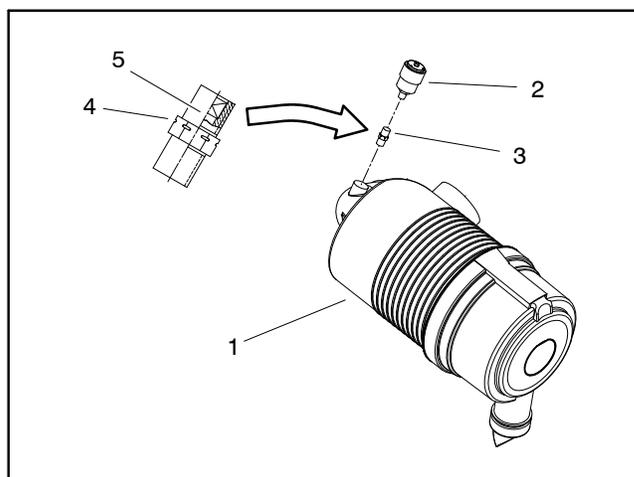

Figure 3
- A. If service indicator (item 12) was removed from air cleaner housing, apply thread sealant to adapter threads before installing adapter and indicator to housing. Install adapter so that grooves in adapter hex and adapter filter element are installed toward service indicator (Fig. 3). Torque indicator from **12 to 15 in-lb (1.4 to 1.6 N-m)**.
- C. Install air cleaner so air cleaner strap (item 9) is as close as possible to air cleaner cover.
- D. Make sure that air cleaner hose (item 24) does not contact engine valve cover or other engine components. To modify clearance, move and/or rotate air cleaner body in air cleaner strap. Verify that tabs in strap mesh fully with slots in air cleaner body.